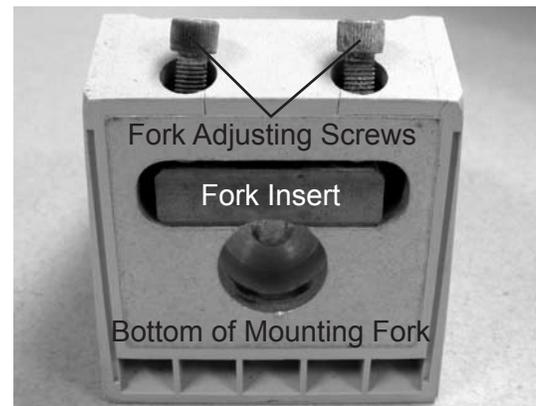

Figure IS-4 Yoke Parts - Bottom View
2. Using a 3/16" Allen screwdriver, secure the Fork Insert with the two Fork Adjusting Screws. Refer to Figure IS-4.
1. Using a 3/16" Allen screwdriver, loosen the Fork Adjusting Screws and place the Yoke Assembly on the Pivot Pin. Refer to Figures IS-4 and IS-9.
2. Once the Yoke Assembly is in the desired position, tighten the Fork Adjusting Screws with a 3/16" Allen screwdriver until the Yoke does not move. Refer to Figures IS-4 and IS-9.